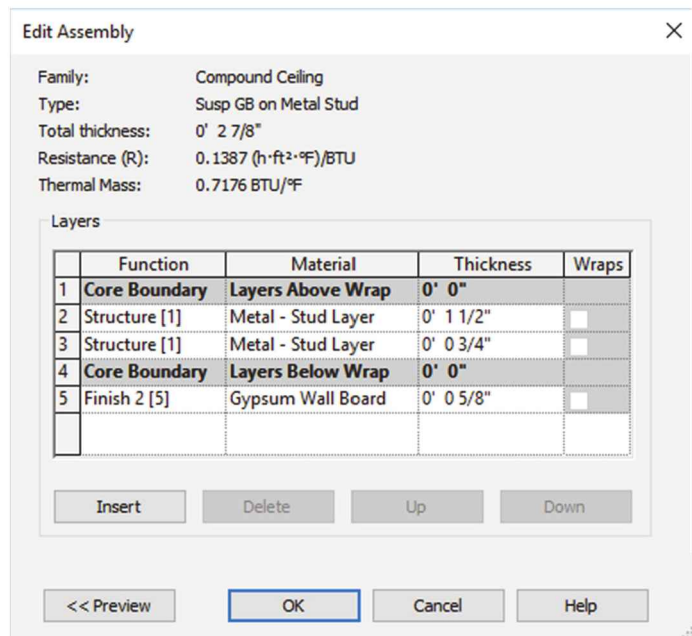

Figure 6-4.9 New ceiling – Edit assembly
21. Create a *Layer* and set the values as follows (Fig. 6-4.9):